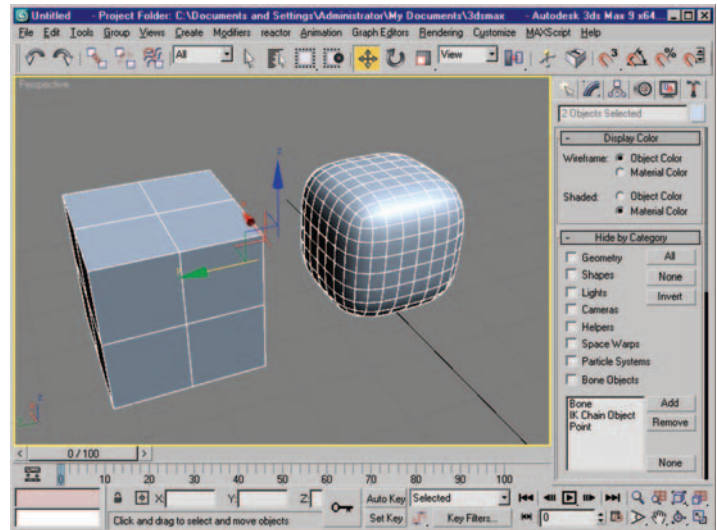

Figure 6.9 Divided base mesh (Connect) and the resulting subdivided model (TurboSmooth).
- Repeat this process two more times so you are left with a cube with four polygons on each face. Turn on TurboSmooth and examine the result. Figure 6.9 shows the divided base mesh and the resulting subdivided model.